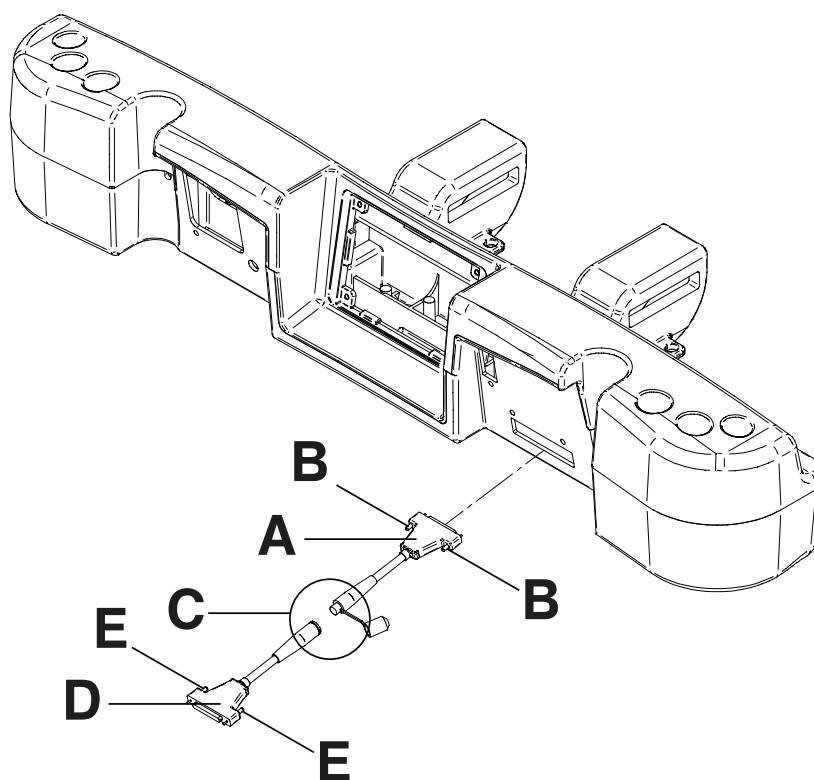

Figure 136: Wall saver connections
1. Insert the pin end of the first connector (A) into the head end of the product (Figure 136 on page 118).
2. Screw the connector fasteners (B) in to secure the connector to the product (Figure 136 on page 118).
3. Connect the back end of the second connector into the back end of the first connector (C) (Figure 136 on page 118).
4. Insert the pin end of the second connector (D) into the wall (Figure 136 on page 118).
5. Screw the connector fasteners (E) in to secure the connector to the wall (Figure 136 on page 118).